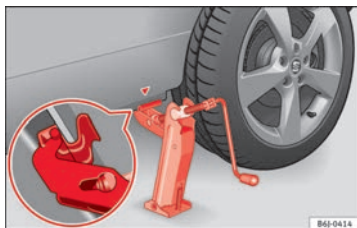

Fig. 150 Fitting the jack.
- Align the jack so that the arm of the jack fits around the rib under the door sill and the movable base plate of the jack is flat on the ground ⇒ Fig. 150.